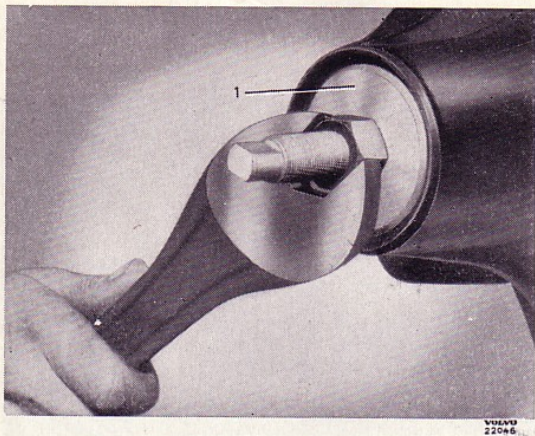

Fig. 22. Fitting the bearing races.
3. Replace the number of shims (30) for the rear pinion bearing outer race which were there before dismantling, in the casing and then press in the outer races with the help of tool SVO 4047, see Fig. 22.
4. Place the pinion in the casing and fit the same number of shims (26) which were there when